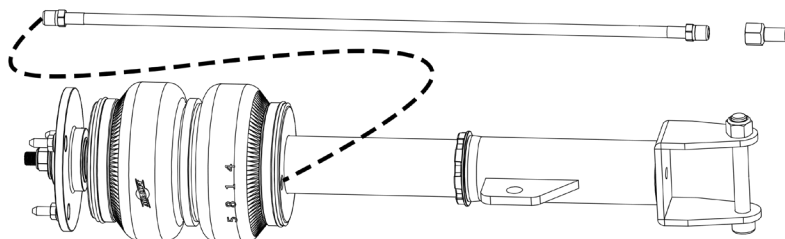

Fig. 12
1. Begin by installing the leader line into the air spring. Tighten the appropriate fitting to the leader line (1 3/4 turns beyond hand-tight). Tighten the leader line into the air spring 1 3/4 turns beyond hand-tight (Fig. 12).